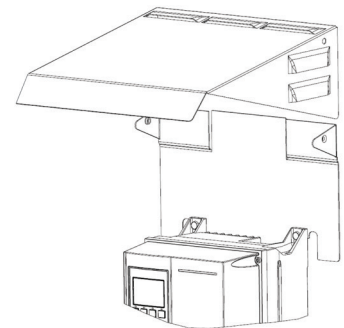

Figure 4
3. Slide the shield onto the bracket (See Figure 4).